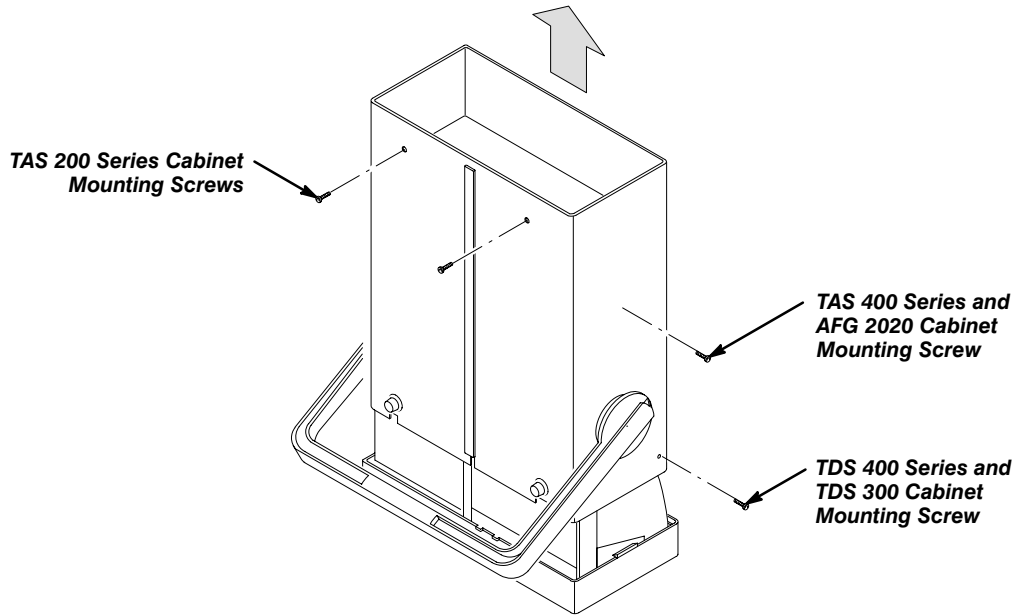

Figure 5: Removing the Cabinet
- a. Remove the screw(s) from the cabinet as shown in Figure 5.